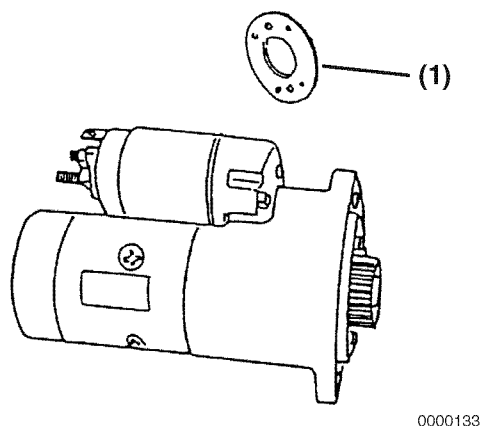

Figure 11-34
5. If the measured L dimension is outside the standard range, adjust the dust covers to obtain the standard range. Dust covers (**Figure 11-34, (1)**) are available in 0.020 in (0.5 mm) and 0.031 in (0.8 mm) thicknesses.